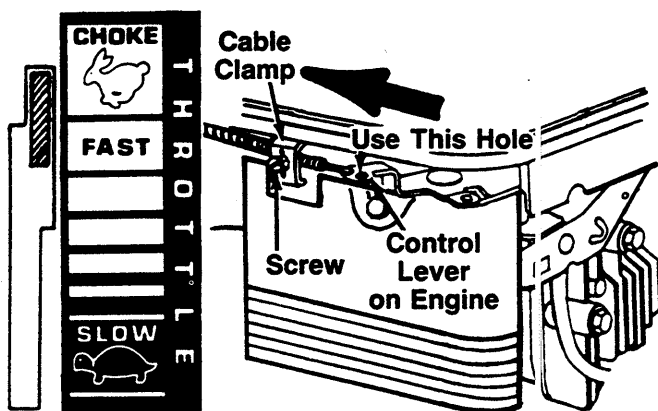

FIGURE 7.
1. Push the throttle control lever on the handle all the way forward to CHOKE position. See figure 7.
2. The throttle control cable is attached to the upper handle. Route the throttle control cable under the lower handle and inside the handle mounting bracket. Hook the "Z" end of the throttle control cable into the smaller hole in the control lever on the engine. See figure 7.
3. Using a screwdriver, remove the screw and cable clamp shown in figure 7. Remove the cable clamp from the cable.